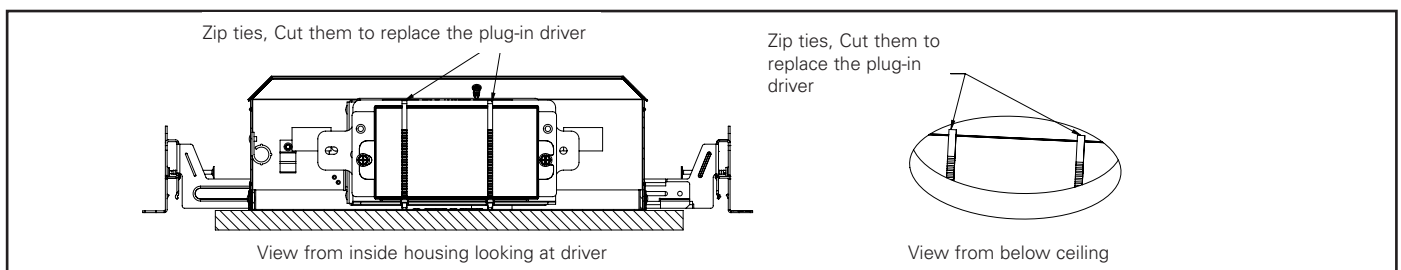

Figure 25.
7. Locate the two zip ties securing the plug-in driver (see Fig. 25) and cut them using a wire cutter